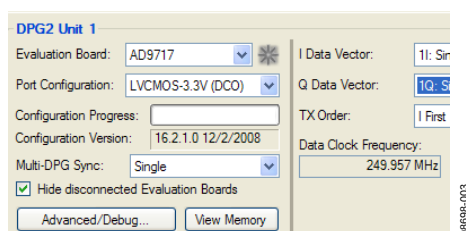
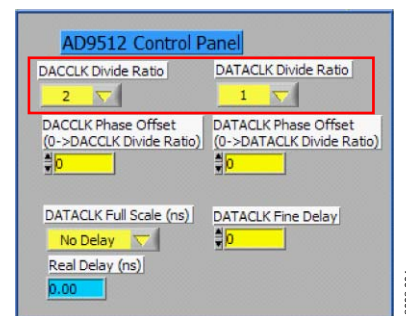

Figure 3. DPG2 Board Configuration
Figure 4. AD9512 Clock Divider Setting
The program should automatically recognize and display the evaluation board, such as the **AD9717** used in this example, in the drop-down menu for the **Evaluation Board**, as shown in Figure 3.
2. Select **LVC MOS-3.3V (DCO)** for the **Port Configuration** as the DPG2 data clock input, also shown in Figure 3.
4. Select the clock dividers for the data clock going to the DPG2, and for the clock going to the DAC. The divider ratio for the DAC clock should be double the ratio for the data clock as shown in Figure 4.
The clock going to the DAC should be no greater than 125 MHz. When the AD9512 configuration is complete, verify the clock frequency output to the DPG2 in Figure 3. The frequency displayed represents the frequency of the clock sent to the DPG2. It should be no greater than 250 MHz.
Note that this frequency is half of the frequency in Figure 3 for **Data Clock Frequency** as the data clock sent to the DPG2 is twice the rate of the DAC. However, the vector generation is done using the DAC clock (data clock/2) (see Figure 4).